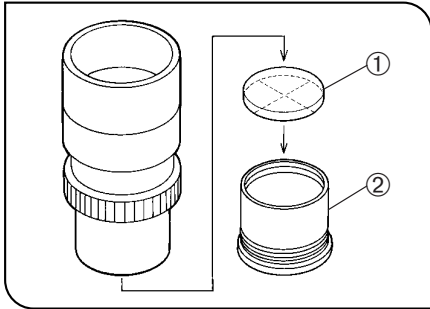

Fig. 25
#### 4 Using the Eyepiece Micrometer Disk (Fig. 25)
Following Fig. 25, turn the built-in micrometer-mounting frame ② counter-clockwise to remove it from the eyepiece and place a micrometer disk. Screw the micrometer mounting frame back into the eyepiece sleeve.